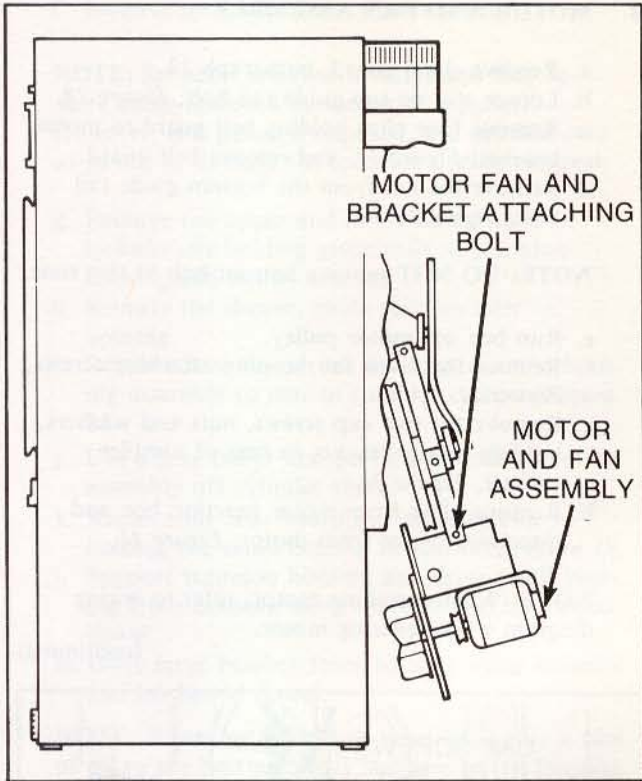

Figure 22
- i. Using the guide rails as support, swing motor and fan assembly out and away from rear of tumbler, *Figure 22*.
- j. While supporting motor and fan assembly, remove the bottom bolt holding the motor fan and bracket to guide rails, *Figure 22*.